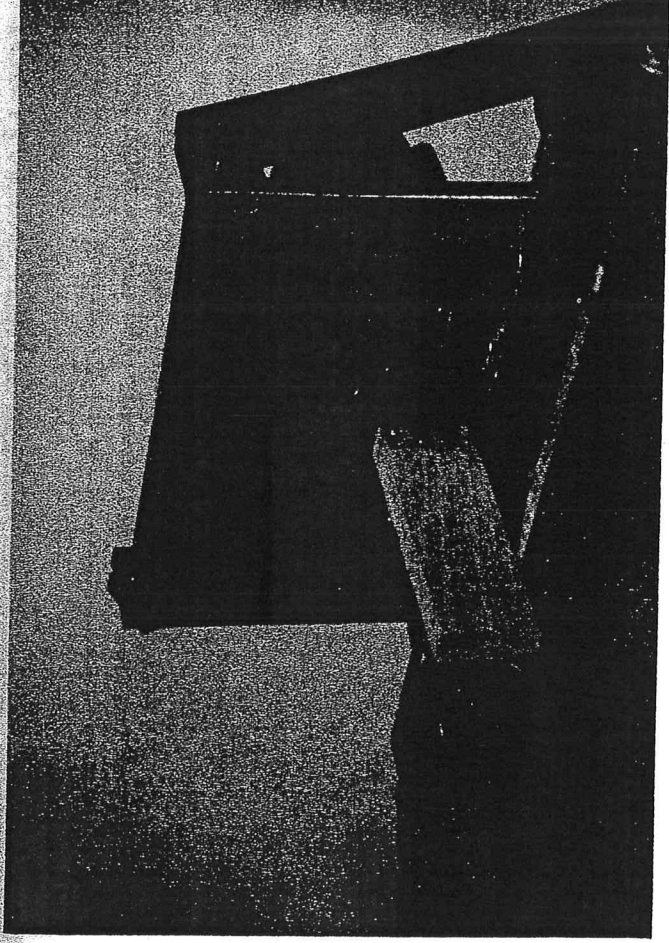

Fig. 3
5. Lower the table 5 turns. Cut an end groove in workpiece A. (fig. 3)